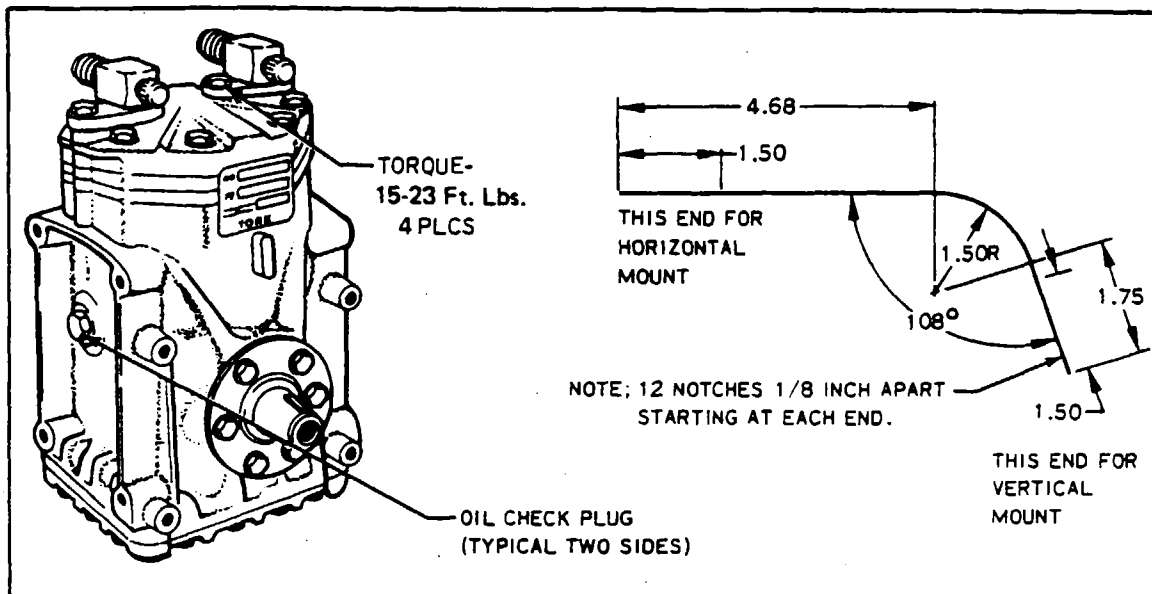

Figure 14-9. Compressor And Fabricated Oil Dipstick
- b. Fabricate an oil dipstick. (Refer to Figure 14-9.)
- d. Before inserting the dipstick, the crankshaft Woodruff key should be located in the up position. (The front face of the compressor clutch is marked with a stamped "K" indicating the key position.) The oil level should be measured from the lowest point in the crankcase. Use the long end of the dipstick. (See Figure 14-9.)